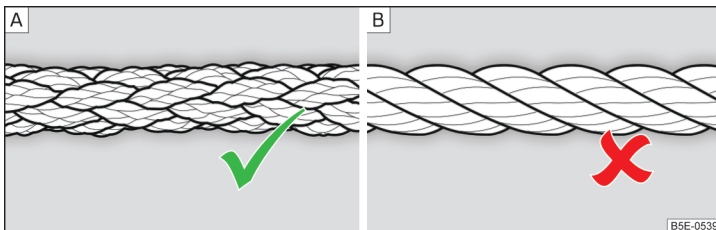

Fig. 268 Braided tow ropes/spiral tow rope
To tow with a tow rope, use only a braided synthetic fibre rope » Fig. 268 - [A] » !.
- Spiral tow ropes must not be used for towing » Fig. 268- [B], the towing eye may unscrew out of the vehicle - risk of accident.